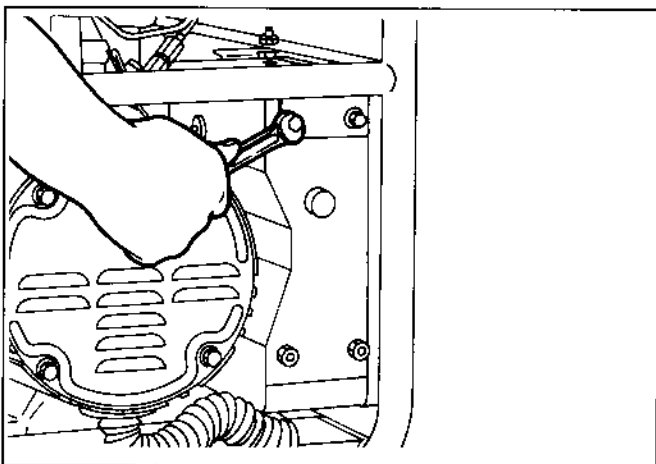

Fig. 10-44
- 3 Tighten the above three bolts adjusting the position of the control box. (See Fig. 10-44.)